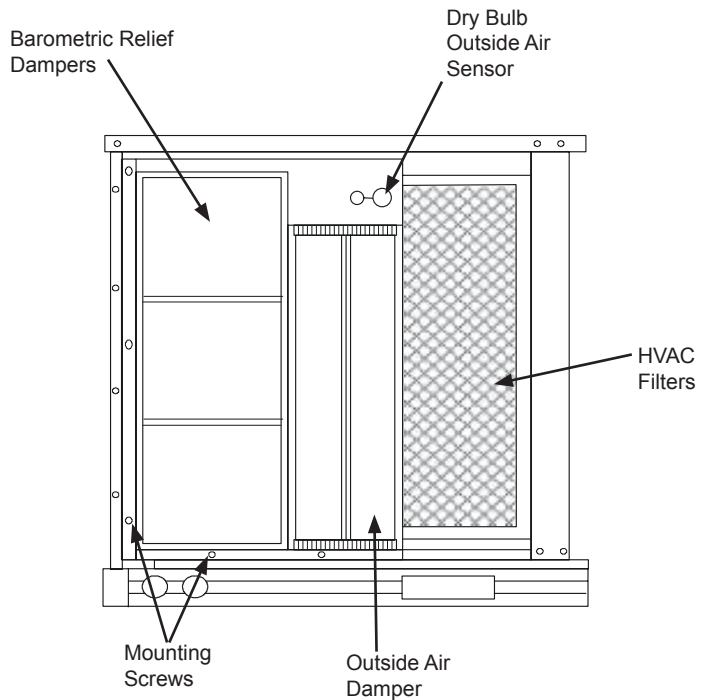

Fig. 6 - EconoMiSer2 Installed in Unit
8. Secure the EconoMiSer2 mounting flanges to the HVAC unit with the screws provided. (See Fig. 6.)